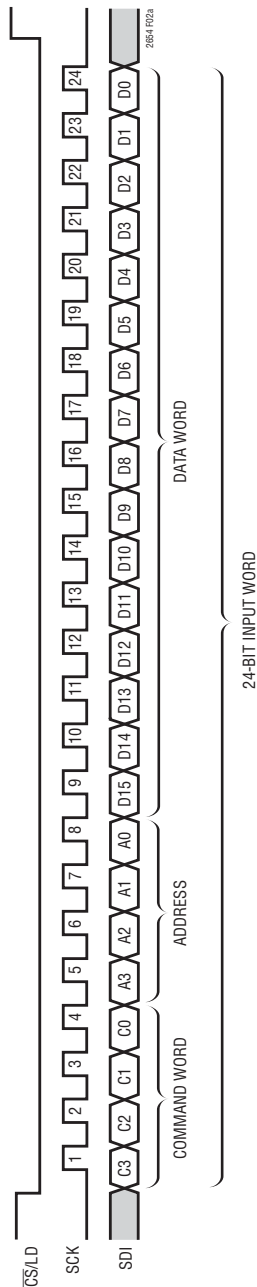

Figure 2a. LTC2654-16 24-Bit Load Sequence (Minimum Input Word)
**SDI (Pin 9/Pin 9):** Serial Interface Data Input. Data is applied to SDI for transfer to the device at the rising edge of SCK (Pin 10). The LTC2654 accepts input word lengths of either 24 or 32 bits. See Figures 2a and 2b.
The  $\overline{\text{CS}}/\text{LD}$  input is level triggered. When this input is taken low, it acts as a chip-select signal, powering on the SDI and SCK buffers and enabling the input shift register. Data (SDI input) is transferred at the next 24 rising SCK edges. The 4-bit command, C3-C0, is loaded first; followed by the 4-bit DAC address, A3-A0; and finally the 16-bit data word. For the LTC2654-16 the data word comprises the 16-bit input code, ordered MSB-to-LSB. For the LTC2654-12 the data word comprises the 12-bit input code, ordered MSB-to-LSB followed by four don't-care bits. Data can only be transferred to the LTC2654 when the  $\overline{\text{CS}}/\text{LD}$  signal is low. The rising edge of  $\overline{\text{CS}}/\text{LD}$  ends the data transfer and causes the device to carry out the action specified in the 24-bit input word. The complete sequence is shown in Figure 2a.